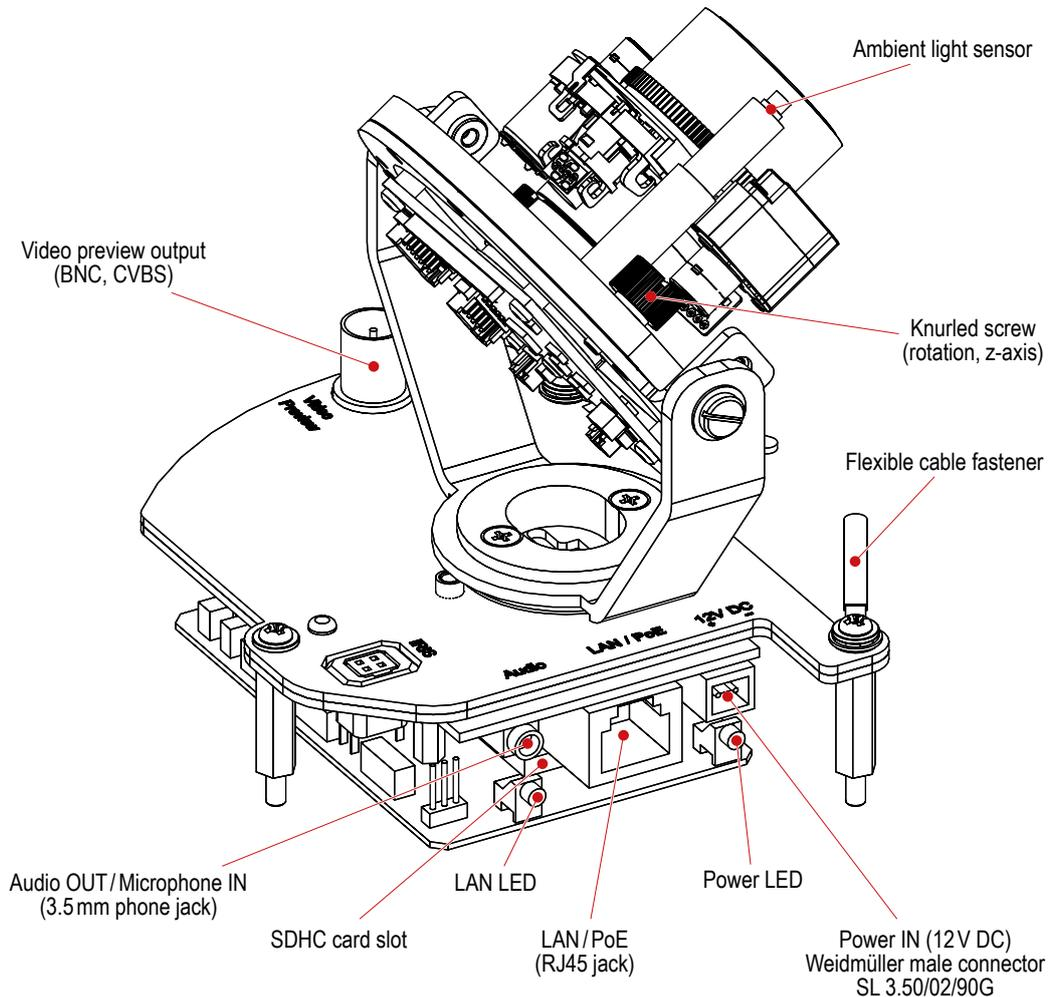

Fig. 5-5 Camera module with 3-axis mount (Pan  $\pm 90^\circ$ , Tilt  $\pm 90^\circ$ , Rotation  $360^\circ$ )
- Connect the required cables to the connectors of the camera module (see Fig. 5-5 and chapter “Pin Assignment” on page 98).